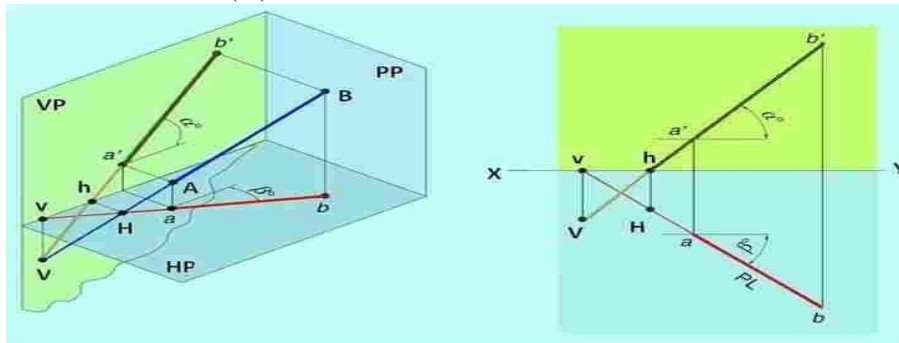

Figure 6 Vertical trace and horizontal trace of line AB which is inclined to both H.P. & V.P.
Figure 6 shows the Vertical trace (V) and Horizontal Trace (H) of Line AB inclined at q to HP and Φ to VP. The line when extended intersects HP at H, the horizontal trace, but will never intersect the portion of VP above XY line, i.e. within the portion of the VP in the 1st quadrant. Therefore VP is extended below HP such that when the line AB is produced it will intersect in the extended portion of VP at V, the vertical trace. In this case both horizontal trace (H) and Vertical Trace (V) of the line AB lie below XY line.